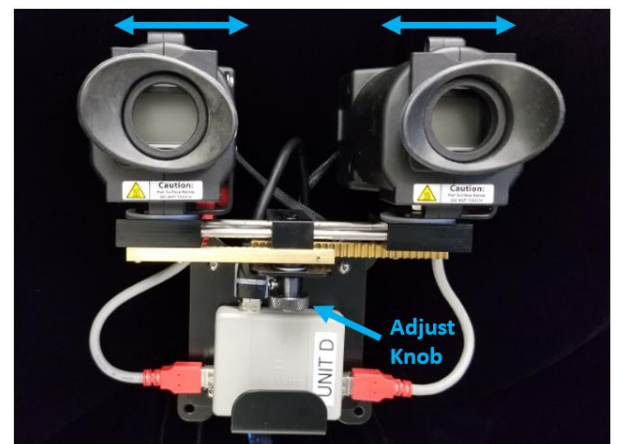

Figure 8
- Inner pupillary distance can be adjusted to fit the subject's eyes by turning the knob located below the cameras. Never grab the camera body to change the arm position or pivot cameras. Always use the metal support under the cameras. See Figure 8.